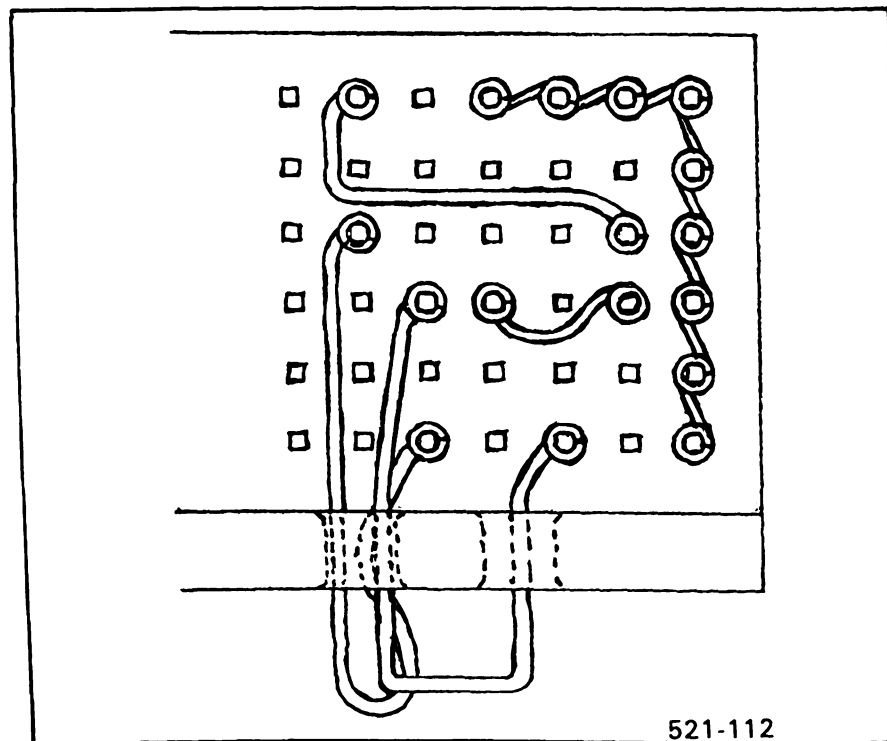

Figure 3. Strapping of Nonadjacent Wire Wrapped Terminals.
(2) Strapping between nonadjacent terminals. (Refer to fig 3.)